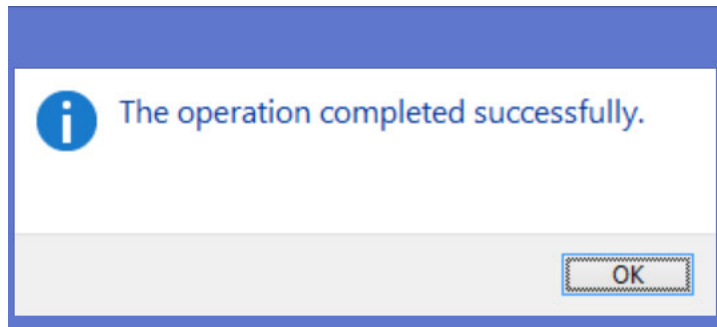

Figure 5. ISL9241 Successful Driver Installation
3. The message in Figure 5 appears when the driver is successfully installed.